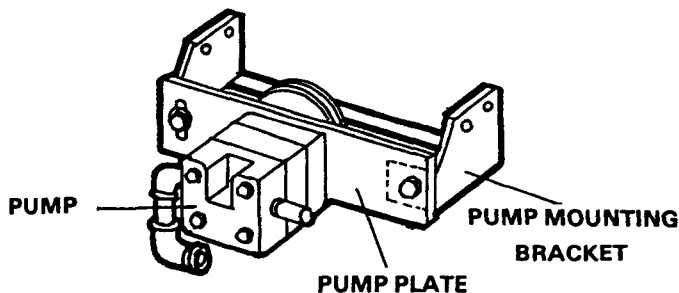

FIG. 2
2. Refer to Fig. 2.
The Hydraulic Pump and its Mounting Bracket are shipped as a pre-assembled unit. (see Fig. 2)